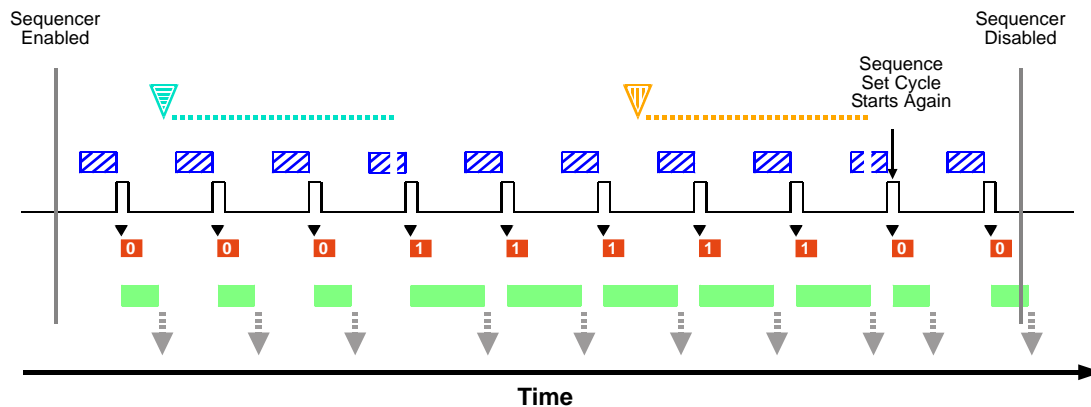

Fig. 101: Sequencer in Controlled Sequence Advance Mode with Disabled as the Sequence Control Source and Asynchronous Advance and Restart
The following use case (see also Figure 101) illustrates the operation of the sequencer in controlled sequence advance mode with Disabled selected as the sequence control source. Sequence set advance proceeds in ascending sequence set index numbers subject to asynchronous advance commands. After one sequence set cycle is complete, another one starts. Sequence set cycle restarts are subject to asynchronous restart commands.
- When the AsyncAdvance command becomes effective, the camera happens to be in "waiting for frame start trigger" status. The parameter values of the next sequence set, i.e. of sequence set 1, are loaded into the active set. Note that the camera briefly exits the "waiting for frame start trigger" status while the parameter values of sequence set 1 are loaded into the active set (see also Figure 101).
- When the AsyncRestart command becomes effective, the camera happens to be in "waiting for frame start trigger" status. The parameter values of sequence set 0 are loaded into the active set. Note that the camera briefly exits the "waiting for frame start trigger" status while the parameter values of sequence set 1 are loaded into the active set (see also Figure 101).